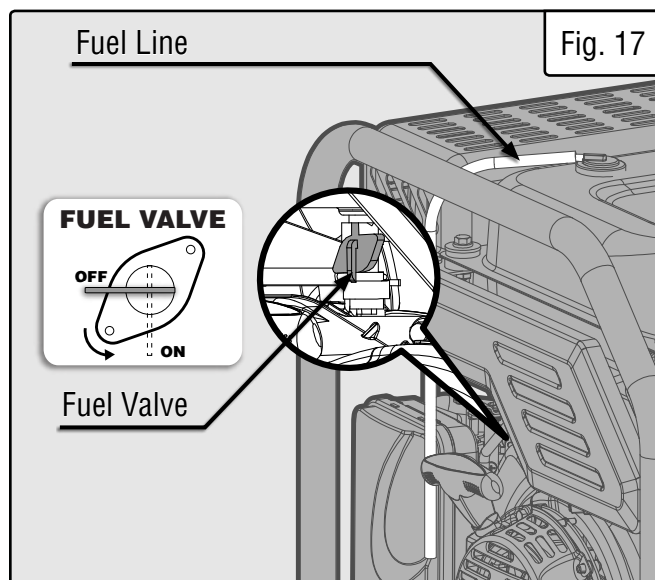

Fig. 17
1. Prepare an approved gasoline-storage container to collect the drained fuel. Place it near the fuel valve (Fig. 17).
3. Locate the fuel line between the fuel valve and the carburetor (Fig. 17). Disconnect the fuel line from the fuel valve. See Fig. 17. **NOTE:** A small amount of fuel may leak from the fuel line during removal.